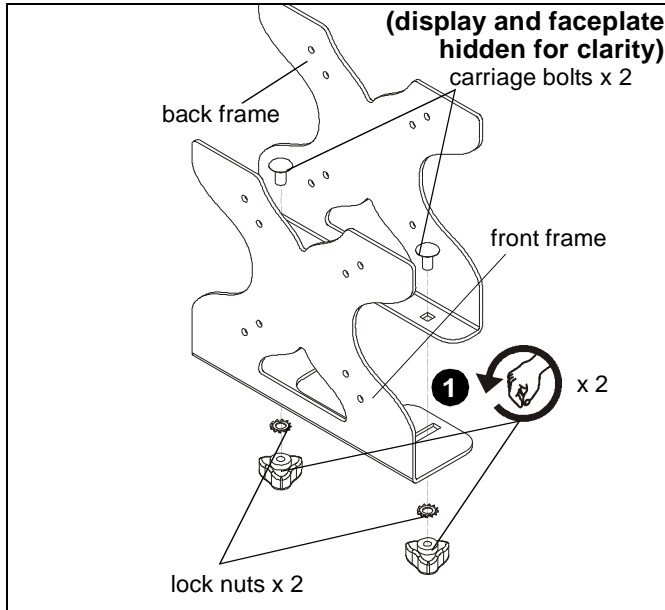

Figure 1
1. Disassemble mount frame (A) by unscrewing two knobs from the carriage bolts that hold the frame together. Set aside all hardware for re-use. (See Figure 1)